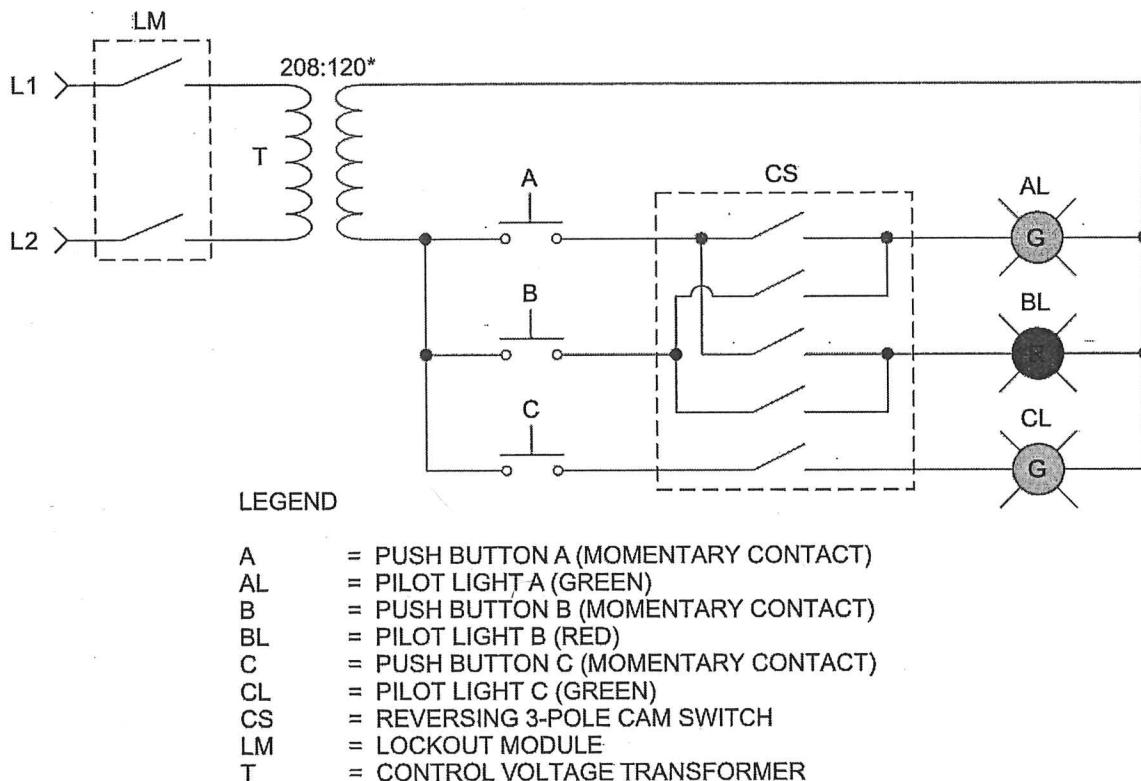

Figure 5
- ____ 1. Replace the MANUAL STARTER used in circuit #4 with the CAM SWITCH. Wire the lights using the CAM SWITCH and PUSH BUTTONS as shown in FIGURE 5.